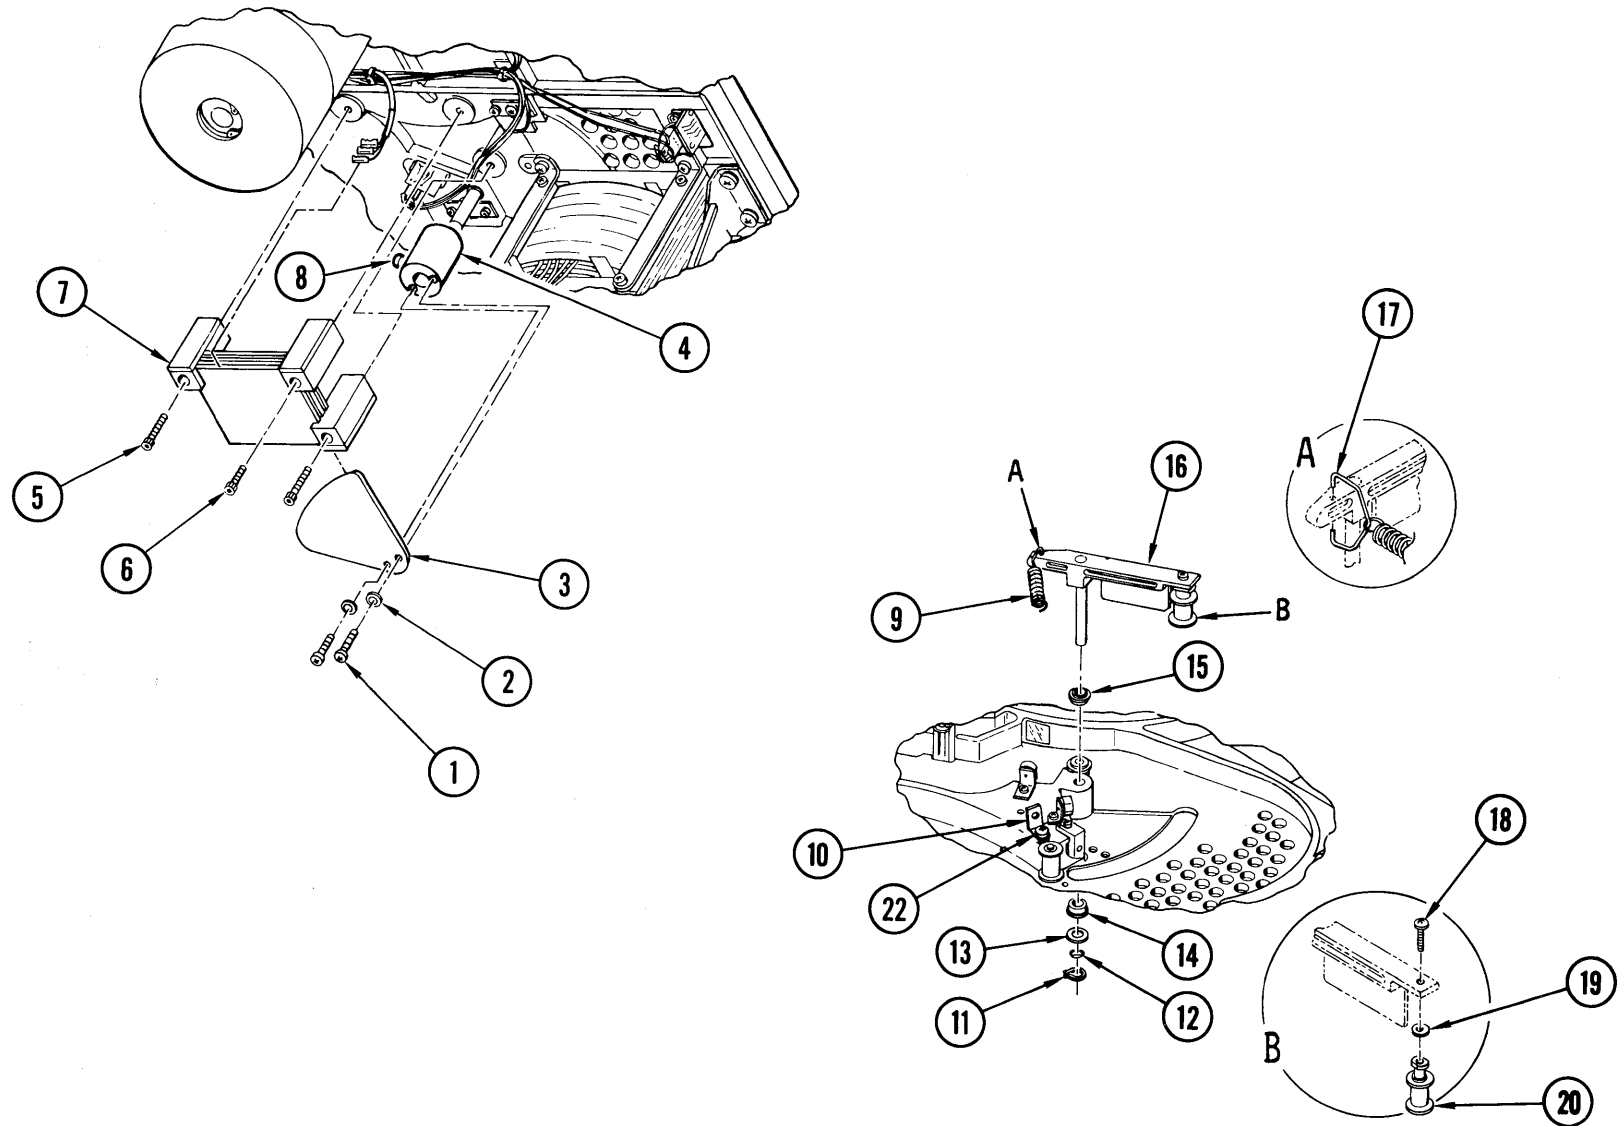

Figure 4-17. Compliance Arm and Air Capacitor Assemblies
4-30. Removal and Disassembly (Figure 4-17). Place the transport in service access position (paragraph 4-3). Proceed as follows:
- a. Replace defective parts and reassemble compliance arm assembly as shown in Figure 4-17, in reverse order of steps g through i, paragraph 4-30, observing the following special instructions.
- (1) Use attaching parts and shims saved from removal and disassembly as necessary.
- (2) Apply Lubriplate to bearing surfaces between clip (17) and arm (16).
- b. If bearing (14) or (15) was removed, apply small amount of Loctite 601 around outside of bearing and replace.
- d. Install shim (13), wavespring washer (12), and retaining ring (11) on bottom of shaft. Check wavespring washer (12) to see that it is compressed half of its height. If not, add shims (13) as necessary, checking compliance arm for freedom of movement.
- e. Slip hub (4) of capacitor shutter over end of compliance arm shaft, tightening socket head screw (8) just enough to hold hub on shaft.
- f. Mount air capacitor stator (7) to under side of top plate with one screw (1/2 - inch) (6), and two screws (5/8-inch) (5), applying Loctite 242 to screws before insertion.
- g. Slip blade (3) of capacitor shutter between two upper plates of capacitor stator (7), and attach to hub (loosen hub if required) with two screws (1), and flatwashers (2).
- i. Loosen hub socket head screw (8) slightly, rotate capacitor shutter blade (3) to within 0.1 inch of power supply housing, and adjust height of hub so that rotor blade does not bind on either plate of capacitor stator (7).